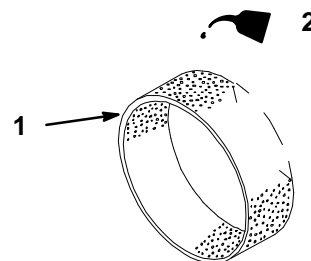

Figure 18
- C. Put one or two ounces of oil on the element (Fig. 18). Squeeze the element to distribute the oil.